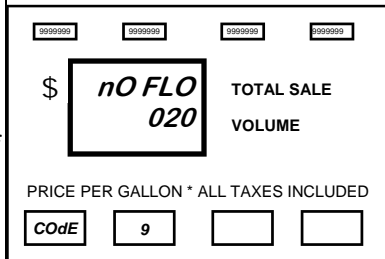

Figure 9.2
2. Use the 0 through 9 buttons on the keypad to enter a Flow Time Out value in seconds. For example, if a 20 second delay is entered, the volume display window looks like Figure 9-2.